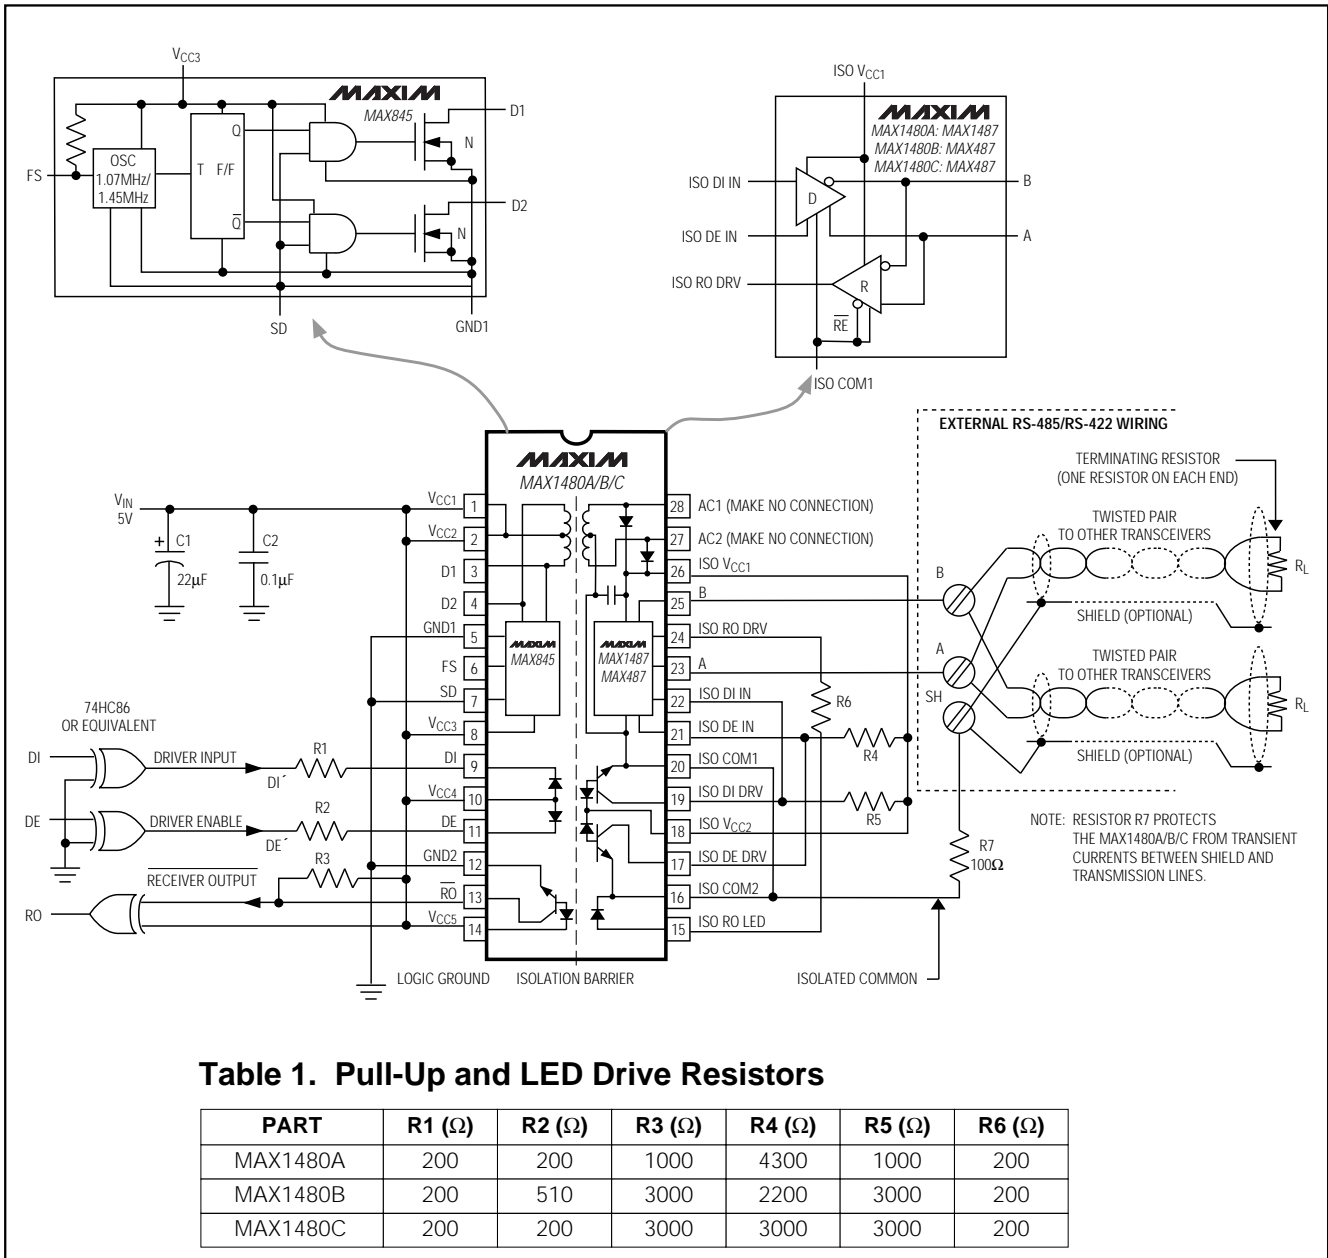
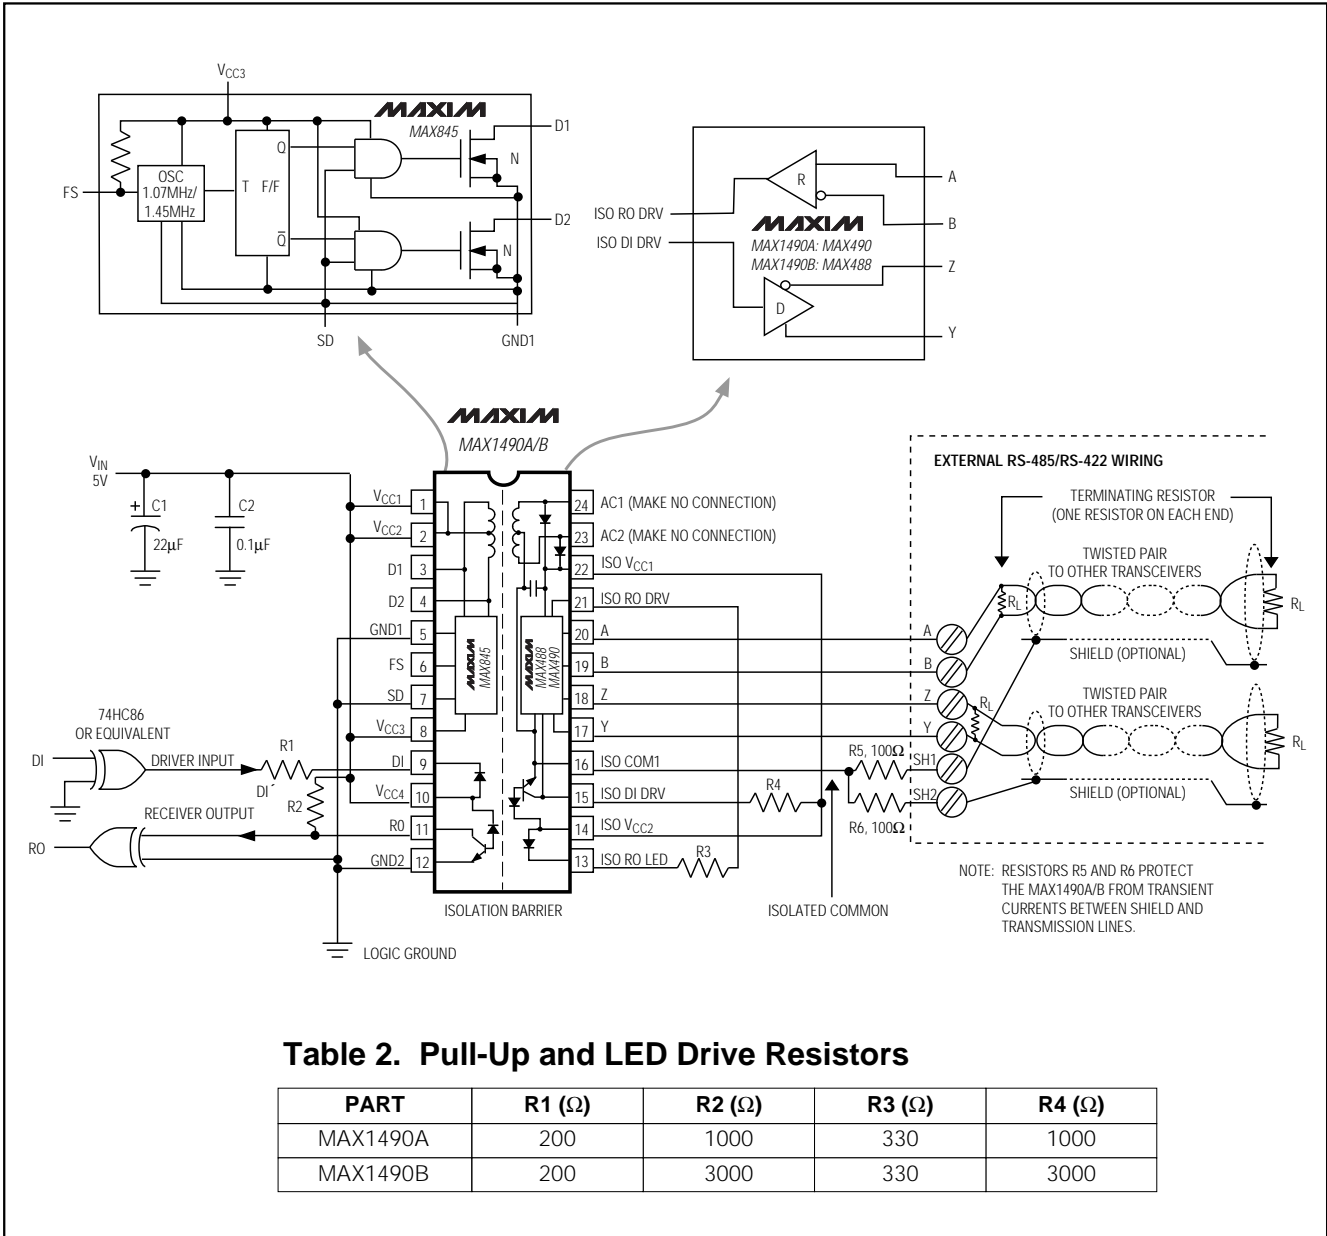

Figure 1. MAX1480A/MAX1480B/MAX1480C Detailed Block Diagram and Typical Application Circuit
Figure 2. MAX1490A/MAX1490B Detailed Block Diagram and Typical Application Circuit
**Note 2:** For DE+ and DI+ pin descriptions, see *Detailed Block Diagram and Typical Application Circuit* (Figure 1 for MAX1480A/MAX1480B/MAX1480C, Figure 2 for MAX1490A/MAX1490B).
**Note:** For DE+ and DI+ pin descriptions, see *Detailed Block Diagram and Typical Application Circuit* (Figure 1 for MAX1480A/B/C, Figure 2 for MAX1490A/B).
The MAX1480A/MAX1480B/MAX1480C/MAX1490A/MAX1490B are complete, electrically isolated, RS-485/RS-422 data-communications interface solutions. Transceivers, optocouplers, a power driver, and a transformer in one standard 28-pin DIP package (24-pin for the MAX1490A/B) provide a complete interface. Signals and power are internally transported across the isolation barrier (Figures 1, 2). Power is transferred from the logic side (non-isolated side) to the isolated side of the barrier through a center-tapped transformer. Signals cross the barrier through high-speed optocouplers. A single +5V supply on the logic side powers both sides of the interface. The MAX1480A/B/C offer half-duplex communications while the MAX1490A/B feature full-duplex communication. The functional input/output relationships are shown in Tables 3–6.
\* For DE1 and DI1 pin descriptions, see *Detailed Block Diagram and Typical Application Circuit* (Figure 1 for MAX1480A/B/C, Figure 2 for MAX1490A/B).
The MAX1480A/MAX1480B/MAX1480C/MAX1490A/MAX1490B are specified and characterized using the resistor values shown in Table 1 of Figure 1 and Table 2 of Figure 2. Altering the recommended values can degrade performance.
The isolated common may be completely floating with respect to the logic ground and the effective network ground. The receiver input resistors will cause the isolated common voltage to go to the mean voltage of the receiver inputs. If using shielded cable, tie the isolated common to the shield through a 100Ω resistor. In the case of the MAX1490, each shield should have its own 100Ω resistor (Figures 1, 2, 13, and 14).